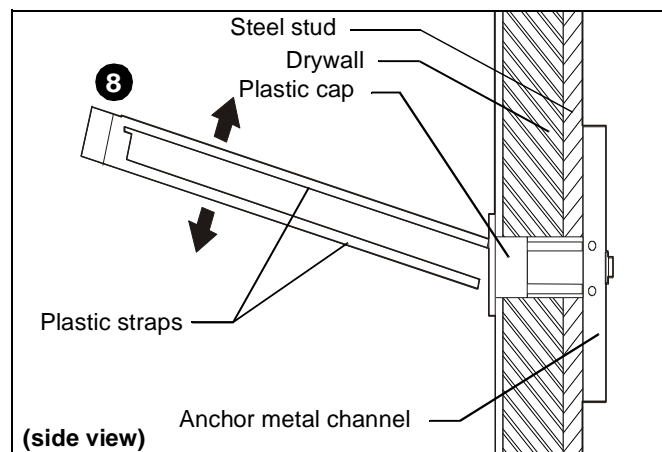

Figure 11
8. Snap off plastic straps on anchor at wall by pushing side to side, snapping off straps level with flange of plastic cap. (See Figure 11)